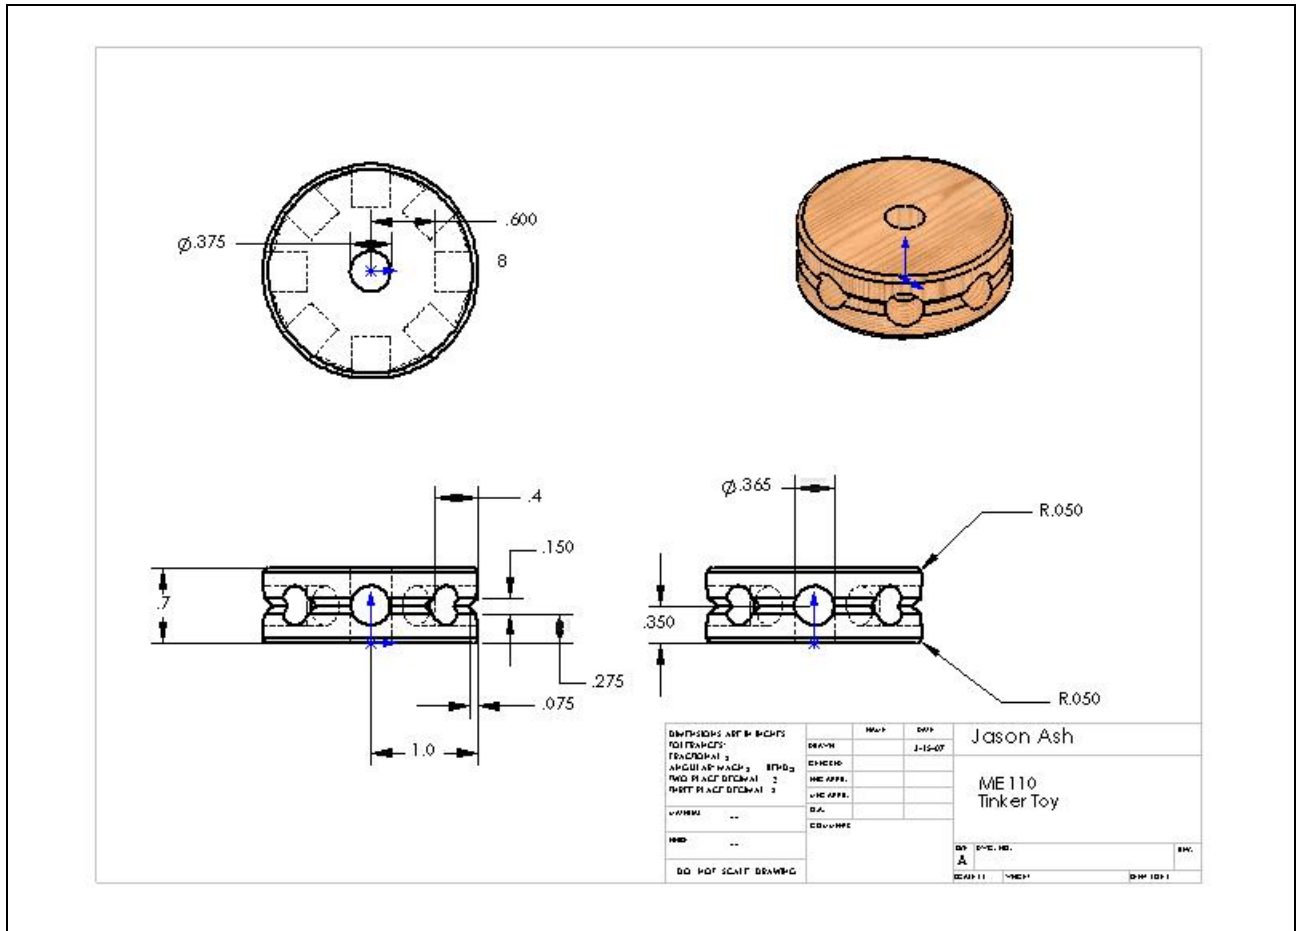

Figure 2. Final drawing to be submitted of tinker toy using circular pattern (dimensioning required)
2. Create the following tinker toy and submit a hardcopy of the SolidWorks drawing file (see Figure 2).